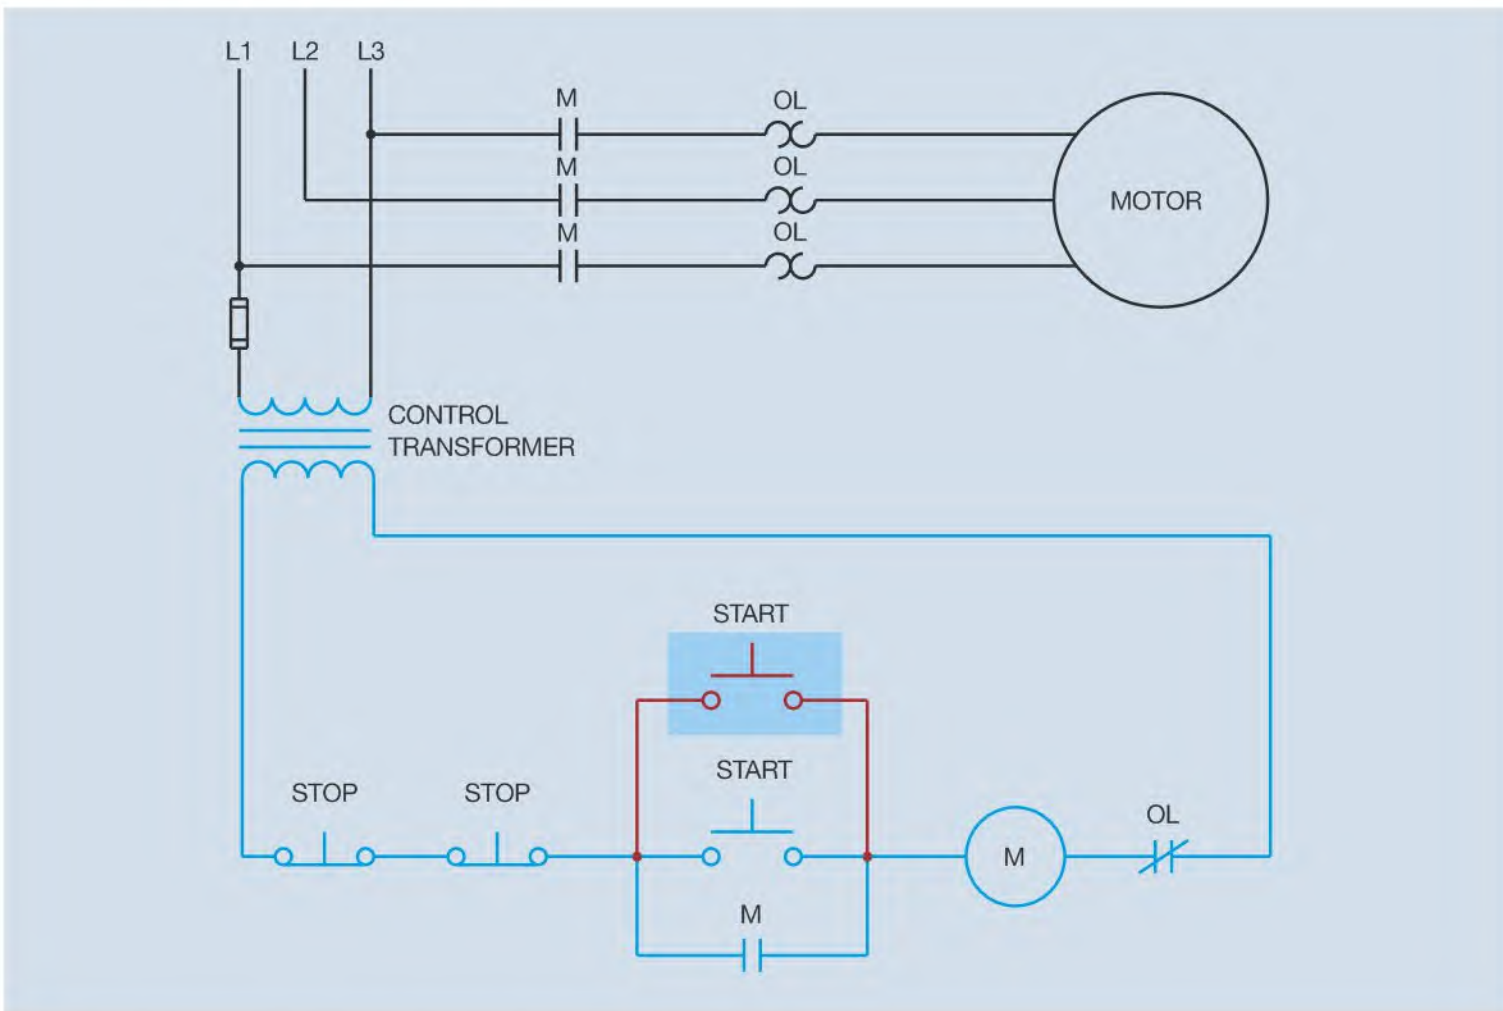
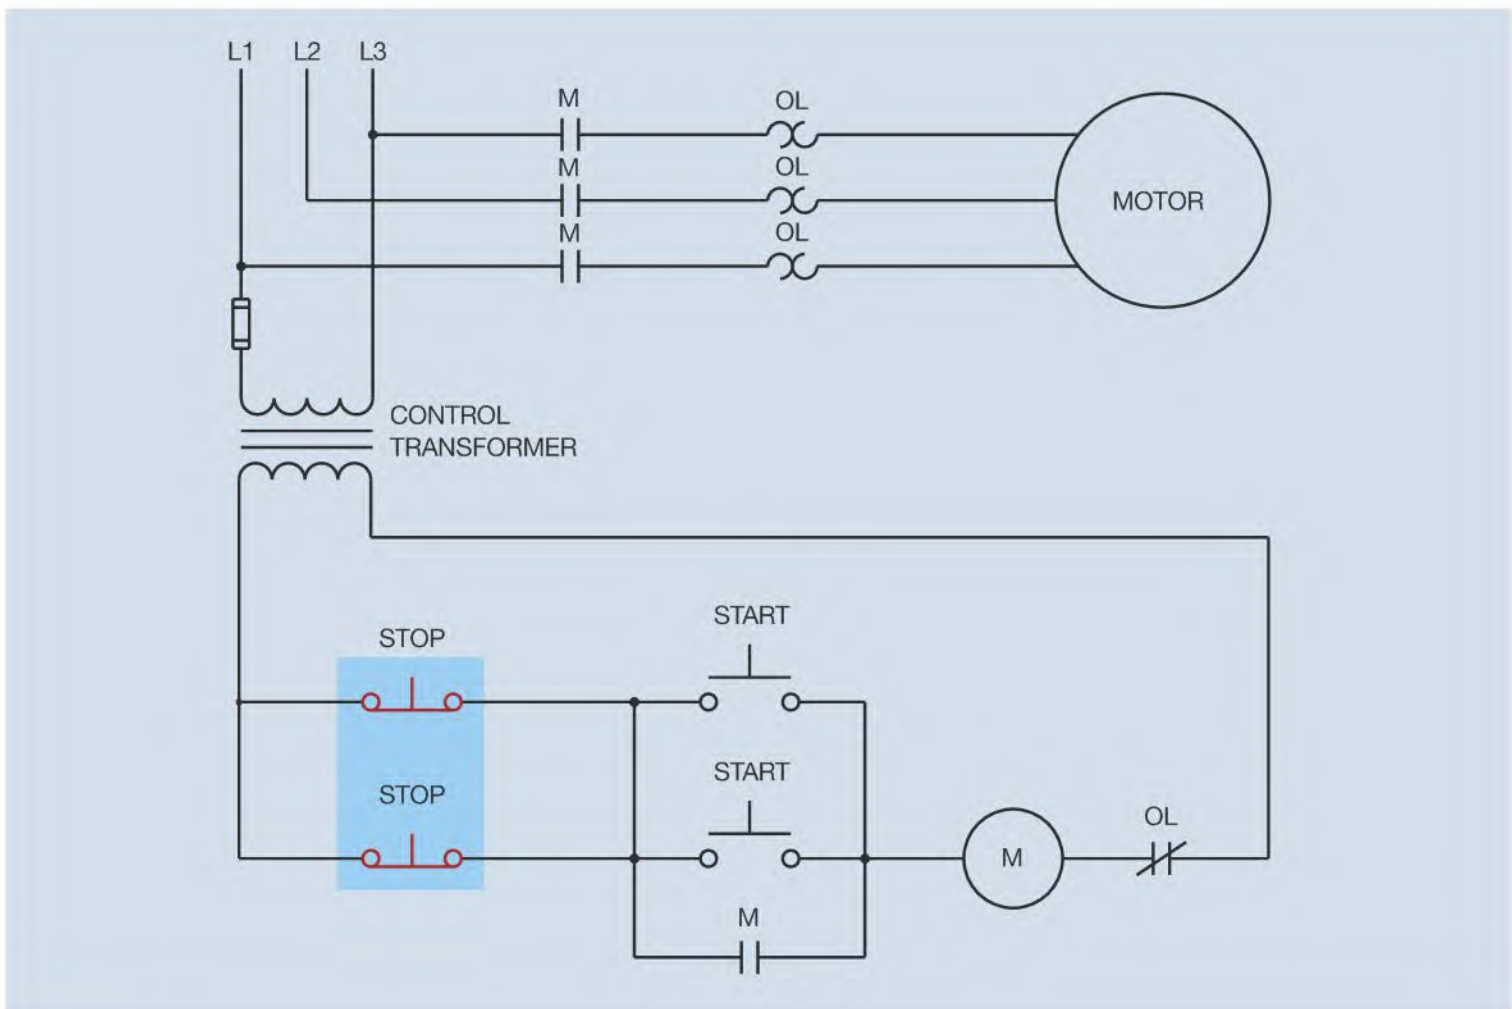

Figure 8-2 A second START button is added to the circuit.
Figure 8-6 The STOP buttons have been connected in parallel.
3. The two STOP push buttons in Figure 8-2 are connected in series with each other. What would be the action of the circuit if they were to be connected in parallel as shown in Figure 8-6?